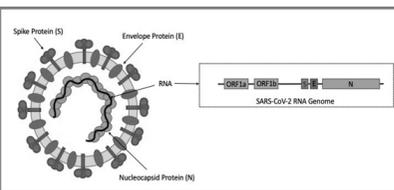

Figure 1. SARS-CoV-2 Structure and Molecular Targets. Common SARS-CoV-2 virus antigenic targets include spike, envelope, and nucleocapsid proteins.
Coronaviruses are enveloped, positive-sense, single-stranded RNA viruses with a nucleocapsid of helical symmetry and are composed of several proteins including the Spike (S), Envelope (E), Membrane (M) and Nucleocapsid (N) proteins (Figure 1).